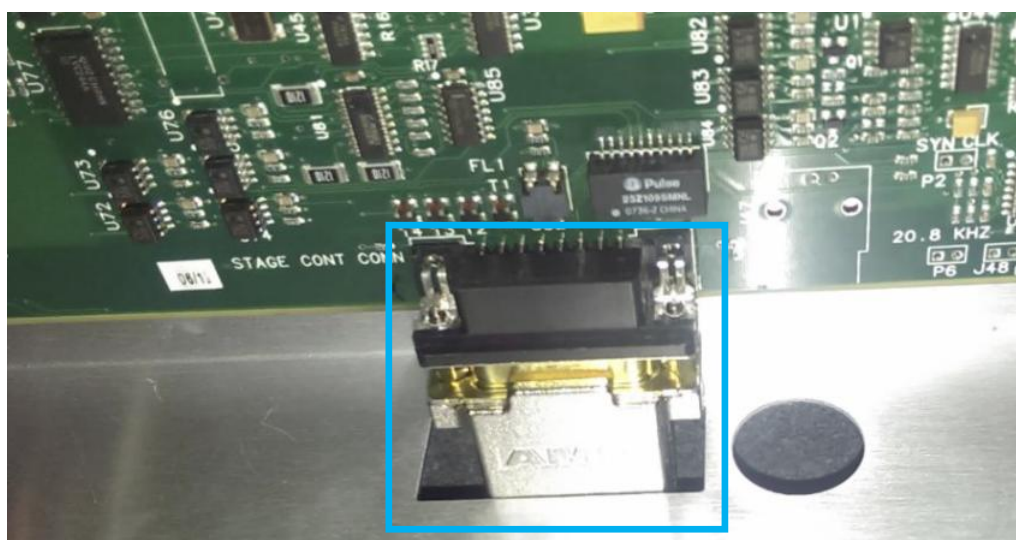

Figure 30 Trigger Board IO Cable connection
13. Connect the CABLE, TRIGGER IO, DBN 15 (P/N, 4XASC-A039) cable into Trigger Board as Figure 30